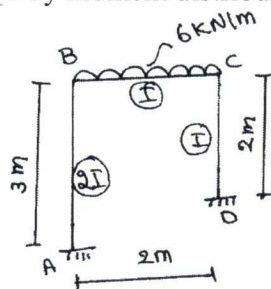

Fig. Q4
- 4 Analyse the frame shown in Fig. Q4 by moment distribution method. (20 Marks)